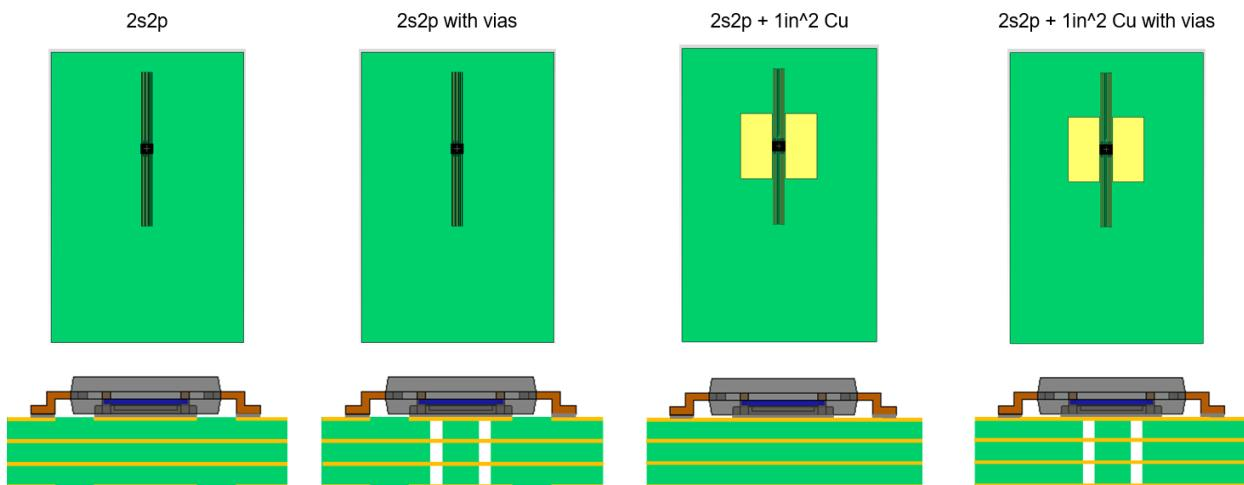

Figure 3. Board Construction for Thermal Performance
5. Board construction based on JEDEC JESD 51-7 for a four layer 2s2p board with forced air convection. Vias were added under the exposed pad as shown in Figure 3.